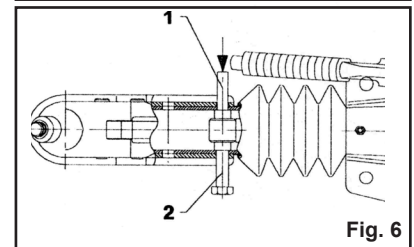

Fig. 6
2) Using the 10 mm dia. retaining pin provided, knock through rear bolt and leave the pin in the shaft to secure the damper (Fig. 6/Items 1&2).